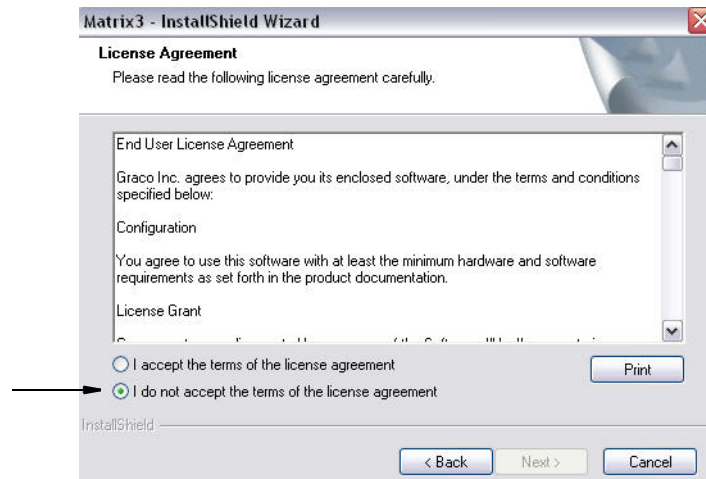

FIG. 4
4. Review the End User License Agreement (FIG. 4). If acceptable, select “I accept the terms of the license agreement”. After accepting the terms of the license agreement, the NEXT button becomes active. Click the NEXT button.